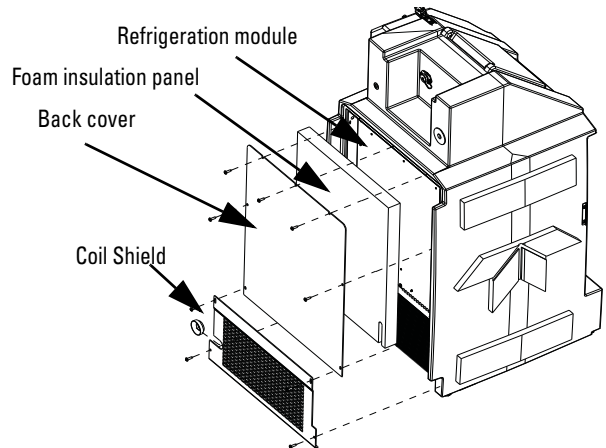

**Figure 19: Slide module into place**
4. Install the module, tipping the top back while sliding the bottom forward. When the bottom of the system is in place, push the top into place (Figure 19). Ensure the slack in the power cord is removed before securing refrigeration module frame.